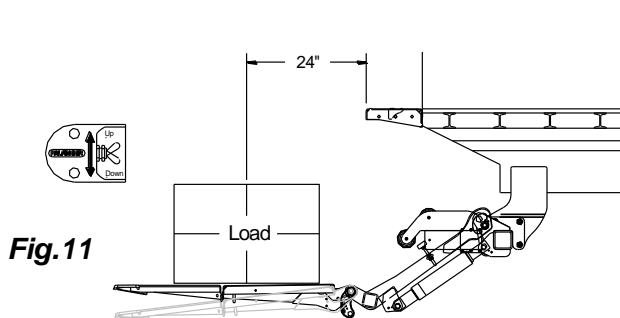
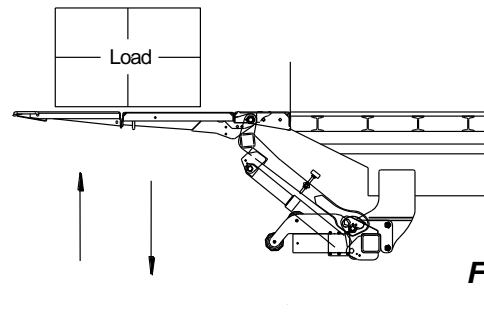

Fig.11
Fig.12
- Center the load on the platform 24" away from the rear of the bed extension, **Fig.11**. Use the toggle switch to lift the platform up and down, **Fig.12**. To tilt the platform down, continue holding the toggle switch down until the platform begins to tilt. Toggle up to tilt the platform up parallel the ground.